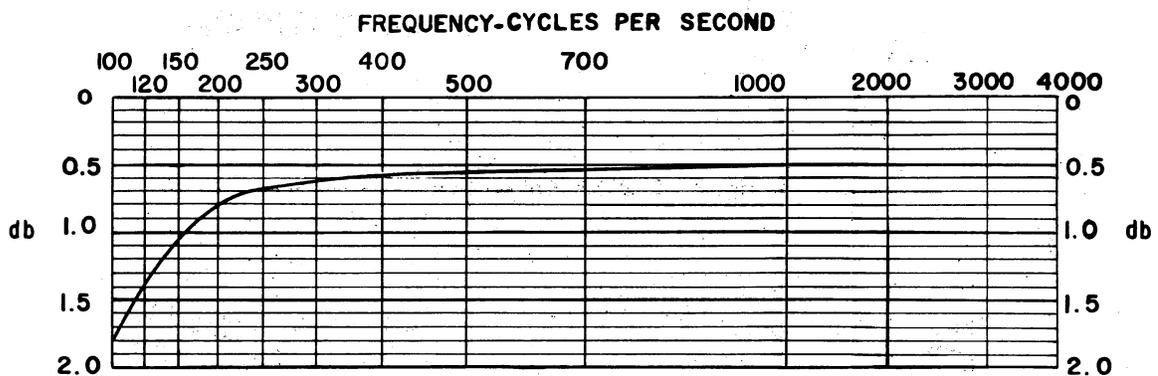

Fig. 6 - Typical 600-ohm Frequency Response
3.02 The 600-ohm path includes a balanced 600-ohm pad of 0.50 ± 0.03 db. The holding circuit and blocking capacitor loss under these conditions is less than 0.05 db at 1000 cycles. The increase in loss at frequencies below 500 cycles, as shown in Fig. 6, is due largely to the 4 uf capacitors rather than the inductor. The suppression at 120- and 180-cycle power induction frequencies is small.